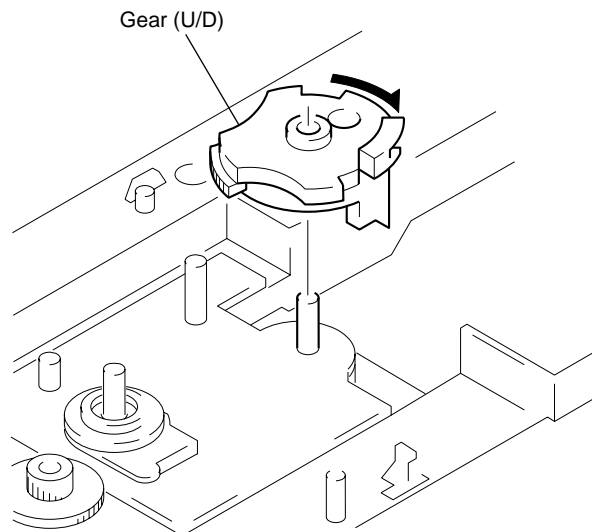

Fig. 3
- 1) Mount the gear (U/D). (See Fig. 3.)
- 2) Rotate the gear (U/D) in the direction of arrow. (down position) (See Fig. 3.)